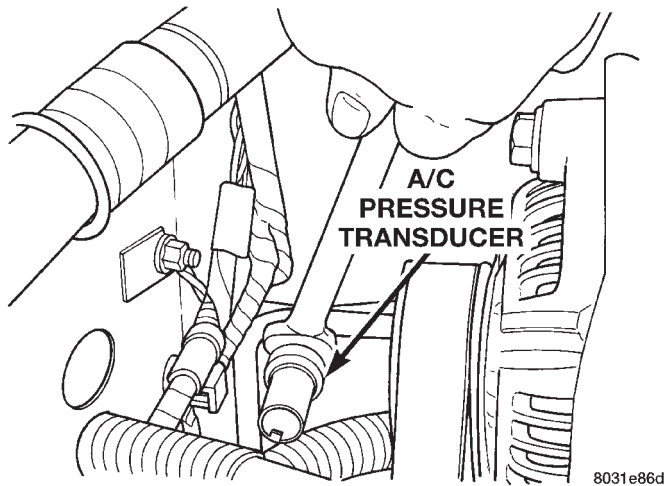

Fig. 11 A/C Pressure Transducer Removal
(1) Disconnect the wire connector at the pressure transducer.
(2) Using an open end wrench, remove the transducer from the liquid line (Fig. 11).